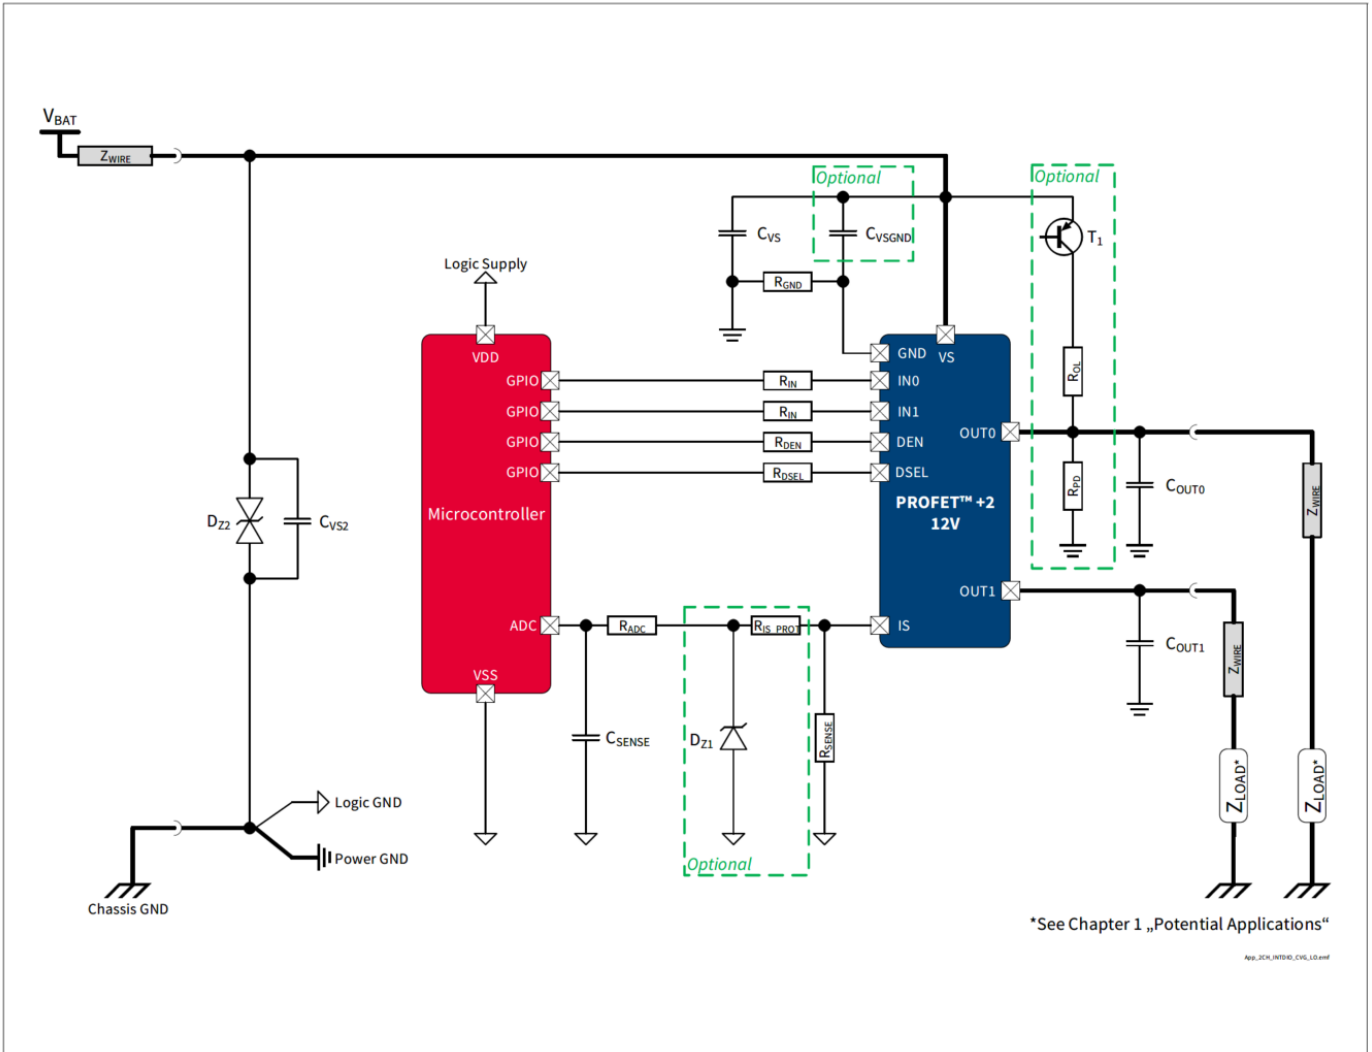

Figure 43 BTS7010-2EPA Application Diagram
1.05, 2019-10-15	P_8.7.2.1, P_8.7.2.7, P_8.7.2.8 updated (added in Note or Test Condition: link to Figure 25) P_7.5.2.4, P_7.5.2.5 updated (added in Note or Test Condition: DEN = “low”; link to Figure 19) P_7.5.2.12 updated (added in Note or Test Condition: see Figure 21) P_8.7.2.6 updated (added in Note or Test Condition: see Figure 26) P_9.7.2.1 updated (added in Note or Test Condition: See Figure 34) P_9.7.2.6 updated (Min./Max.: -45%/+45% → -34.5%/+34.5%) P_9.7.2.9 updated (Min./Max.: -38%/+38% → -25.5%/+25.5%) P_9.7.2.12 updated (Min./Max.: -34%/+34% → -22.5%/+22.5%) P_9.7.2.15 updated (Min./Max.: -22%/+22% → -13.0%/+13.0%) P_9.7.2.17 updated (Min./Max.: -9%/+9% → -8.1%/+8.1%) P_9.7.2.19 updated (Min./Max.: -6%/+6% → -4.6%/+4.6%) P_9.7.2.21 updated (Min./Max.: -5%/+5% → -3.9%/+3.9%) P_7.5.2.11 updated (added in Note or Test Condition: see Figure 19) Figure 1, Figure 43 updated Chapter 1 updated (or LED equivalent → or equivalent electronic loads (e.g. LED modules)) P_4.3.0.7 added Table 24 updated Chapter 5.1 updated (added: see Chapter 10 for the complete application setup overview)